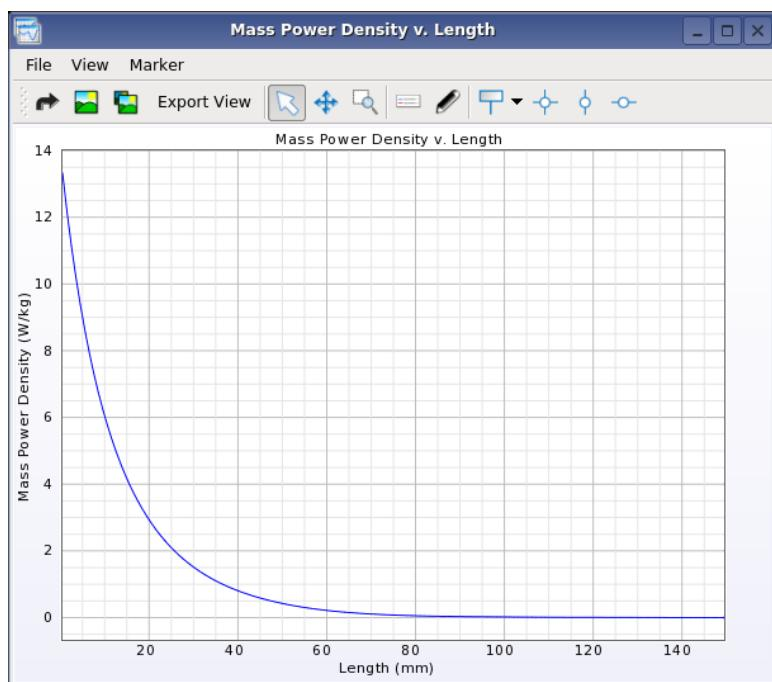

Figure 9.27: A line plot of the SAR as a function of distance above the feed point
- Press VIEW to see a line plot of the SAR as a function of distance from the feed point in the center of the phantom, as shown in Figure 9.27.